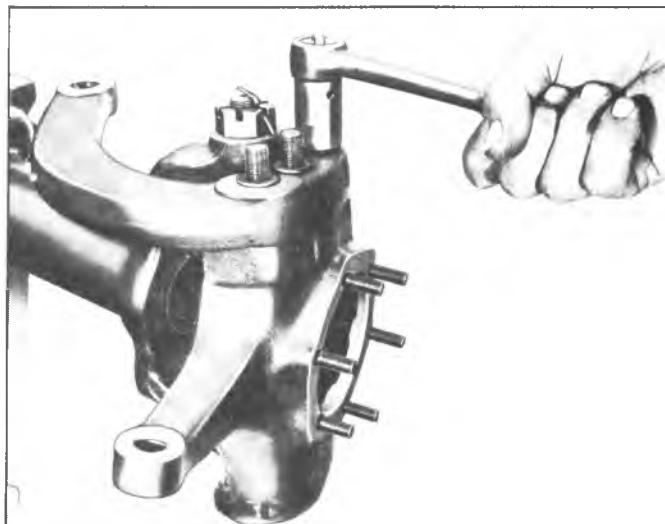

Fig. 61—Removing Steering Arm Nuts
**CAUTION:** If it is necessary to remove the steering arm, discard the three self-locking nuts (Fig. 61) and replace with new nuts at assembly.